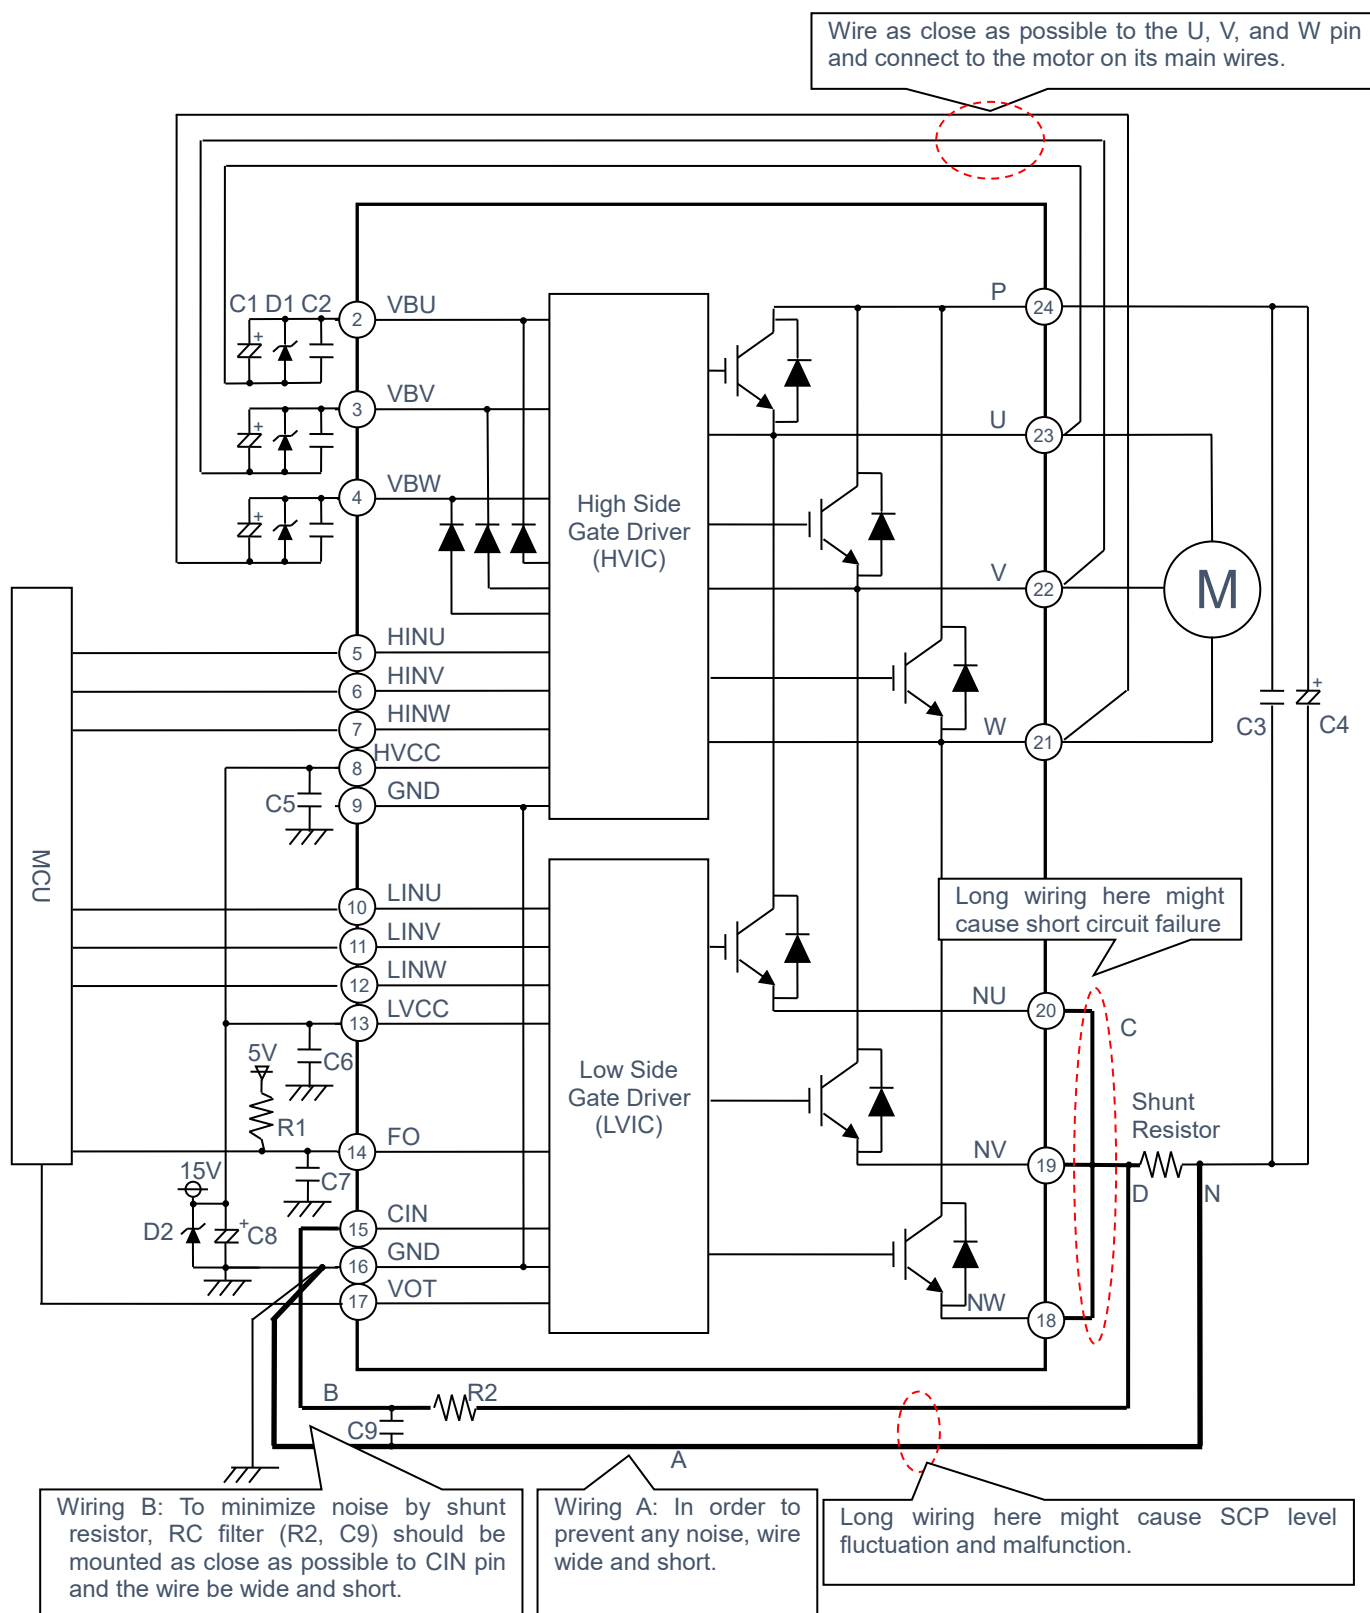

Figure 3.1.1 Application Example (Non-isolated control by driving IPM directly)
3.2. Selection of Components (Refer to Figure 3.1.1)